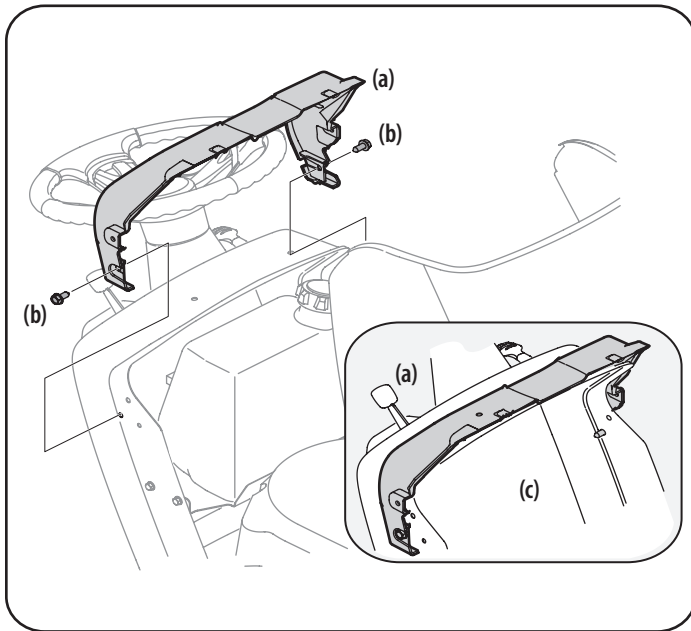

Figure 7
1. If the dash shroud (a) was shipped loose, the hardware for attaching the dash shroud (a) is shipped installed in the dash shroud (a). Remove the two bolts (b) from the dash shroud (a). See Figure 7.
2. Mount the dash shroud (a) and align the mounting holes. See Figure 7.
3. Secure the dash shroud (a) to the dash (c) with the bolts (b) removed in Step 1. See Figure 7.